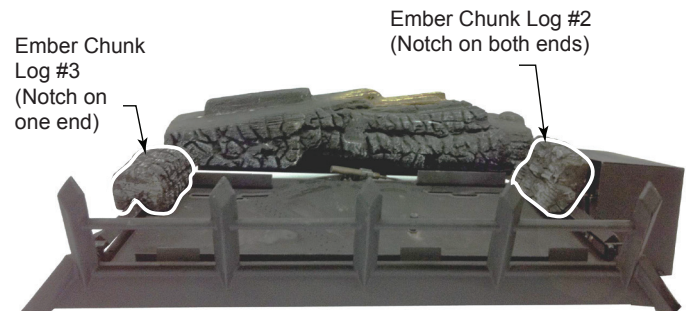

Figure 6.19 - Log #2 & #3 Placement
- Place the ember chunk (#2) with notch on both ends on the grate bar right side of the burner adjacent to the controls. Push towards rear as far as possible. See Figure 6.19.
- Place the ember chunk (#3) with notch on one end on the grate bar left side of the burner with notch towards rear. Push towards rear as far as possible. See Figure 6.19.